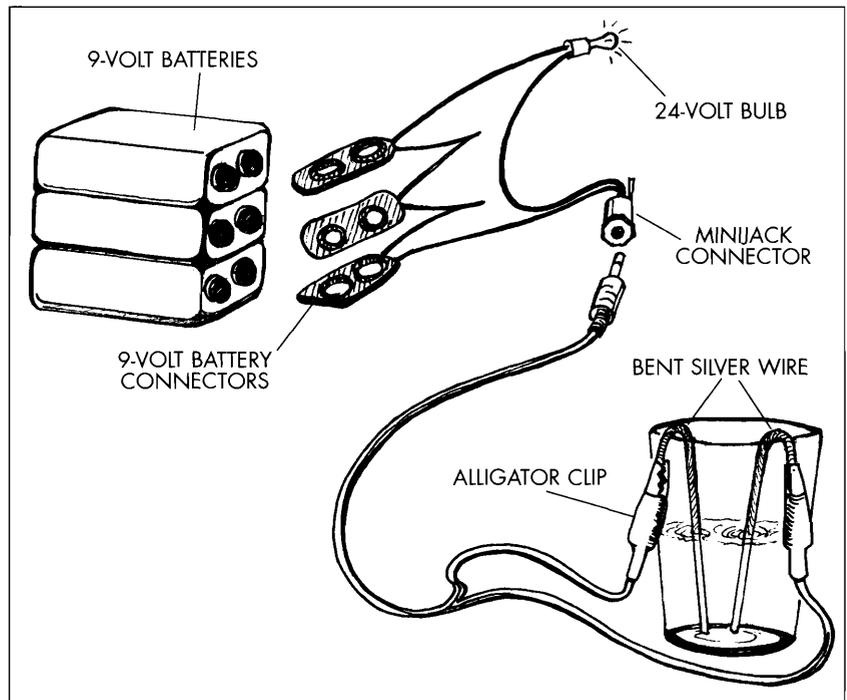

Figure 9-1. Colloidal silver generator.
See Figure 9-1 for a sketch of how to hook up your own colloidal silver generator. Connect three 9-volt transistor radio batteries in series (+ terminal to – terminal to + terminal, etc.) using readily available 9-volt battery clip-on terminals. Wire a 24-volt light bulb in series with the batteries, then connect to a minijack for easy use. The light bulb performs two functions. First, it is your battery indicator, which should shine brightly when you touch the two alligator clips or silver wires to each other. Second, it provides a load to the battery, so you don't drain your batteries dead after a minute or two if the silver wires accidentally touch while making solution. Connect one wire from your battery pack, and one from the light bulb to a minijack socket. Tape your battery pack together and mount your lamp, battery pack, and minijack socket into an appropriate box. Split the wires from the minijack plug and connect to two alligator clips. Cut two 6-inch lengths of 99.99% pure silver wire (14 or 16 gage works well) and bend the ends into ½-inch hooks for hanging over the edge of a glass. Purchase electrical materials
- Hang the two pure silver wires over the edge of your glass into the water, and clip the two alligator clips to the outside ends of the wires (see Figure 9-1). Plug the minijack connector into your box. The light bulb should be dark, or glowing faintly. If glowing brightly, either the wires are touching or the water contains a lot of impurities. Separate the wires in the solution by 1 to 2 inches.